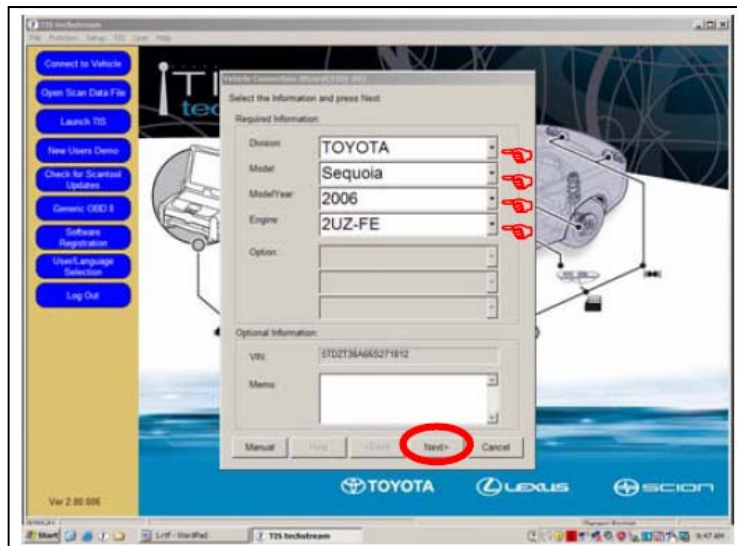

Figure 14b
- e. Confirm that the information displayed on the Vehicle Connection Wizard is correct. If not make the appropriate selections from the Drop Down Menus then click Next. See Figure 14b.